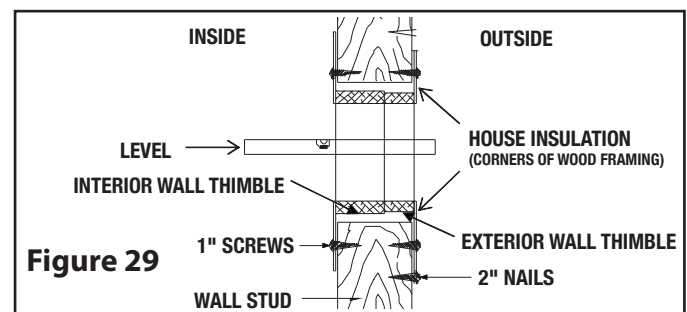

Figure 29
Ensure the opening for the chimney to pass through is straight and level. Screw the outer thimble in place with the provided screws (see Figure 29).
**NOTE:** The cavity surrounding the wall thimble metal shield can be filled with insulation (see Figure 29).